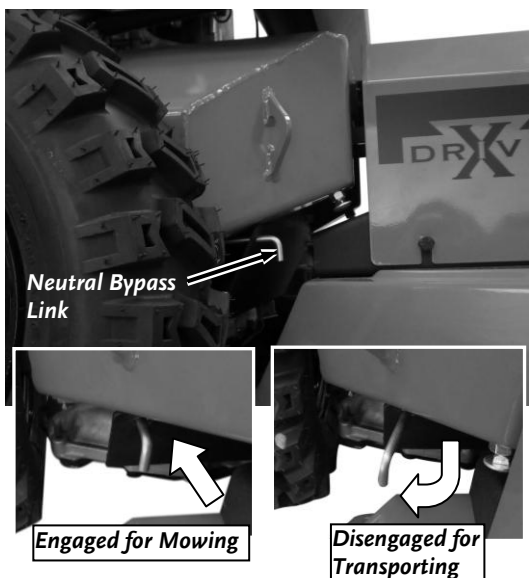

Figure 14
1. Push each of the two Neutral Bypass Links in toward the Frame until they stop (**Figure 14**).
1. Pull each of the two Neutral Bypass Links out toward the deck and at the same time toward the outside of the Frame (**Figure 14**).